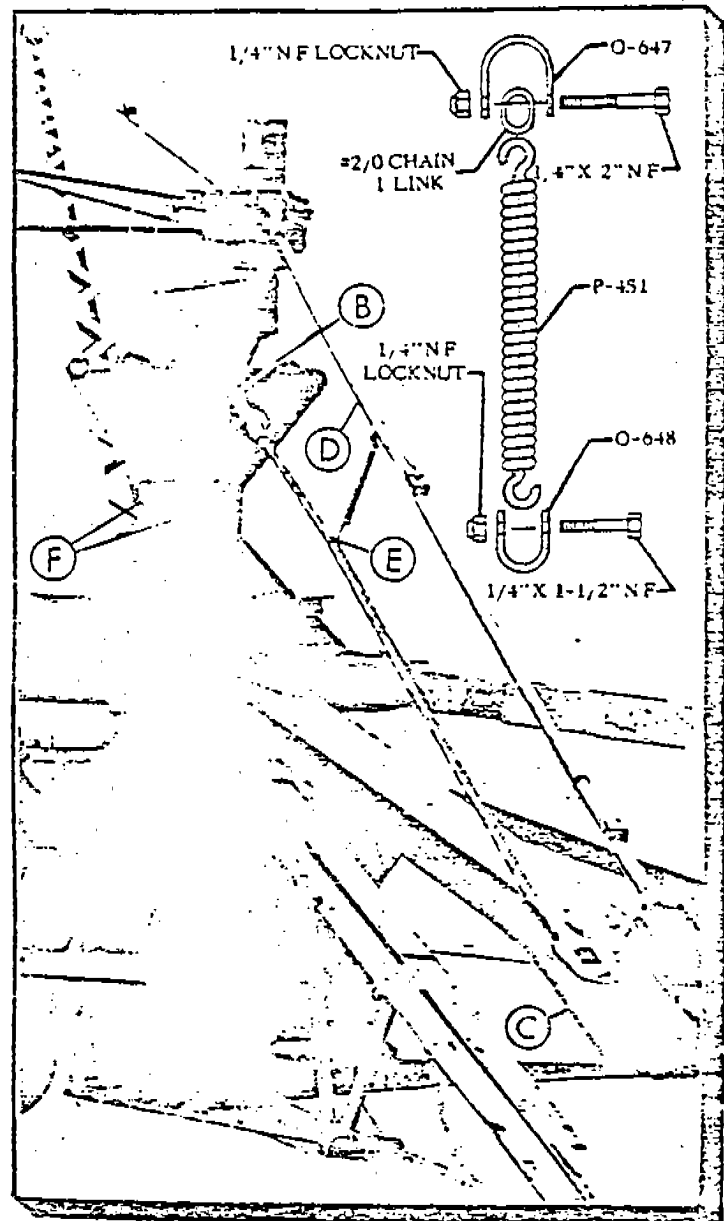

FIG. 2
(3) Attach the connecting rods (B) Fig. 2 to the adaptor using 1-1/4" Pins. Then attach the cables to the outer end of the connecting rods. Install clevises on threaded end of cable.
(4) Mount the anchor plate (C) Fig. 2 between the sweeps and the stub or cross arms using 3/4" X 2-1/4" class 8 heat treated bolts and nuts as furnished.
(5) Adjust cable tension so they are nearly tight when the sweeps are in their lowest position. Then lock the clevis to the cable by tightening 1-1/2" jam nut. If the cables are too tight they will cause the support rods to bend.
(6) Attach clevises, using 1-1/4" pins, to the anchor plate holes which correspond to the holes used to attach the sweep support rods to the sweeps.
(7) Attach spring clamps (D) Fig. 2 to the sweep support rods 5 feet from inner support pin. Attach clamps and springs to the safety cables 6" to 8" further out (E) Fig. 2 to pull cables toward the center when the sweeps are raised. Springs should remain attached to the cables when disassembling.